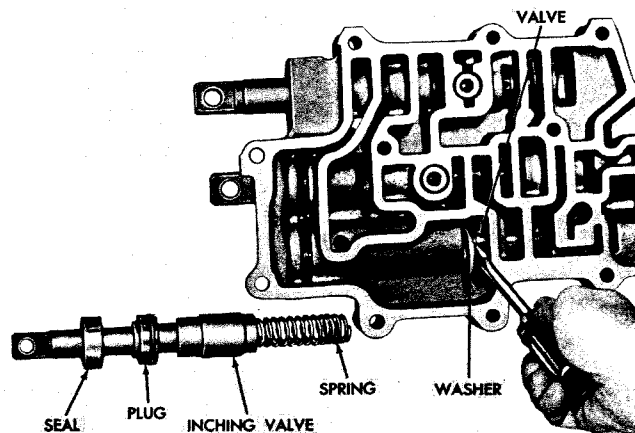

Fig. 6-5. Removing (or installing) inching valve washer—later model
(3) Using a small screwdriver, push the inching regulator valve forward in the valve body and remove washer 37 retaining it (fig. 6-5).
(11) Push the inching regulator valve forward against the spring and install the washer which retains it (fig. 6-5).
(12) Install seal ring 44 (B, foldout 15) onto plug 43. Install the plug, flat side first, onto the stem of the inching control valve.
(13) Install spring 41 into the recessed end of the valve.
(14) Install the inching control valve, spring and plug into the valve body. Push plug 43 into its bore in the valve body (fig. 6-5) and install valve stop 38 (B, foldout 15).
(15) Install oil seal 45, spring-loaded side inward and press it flush to 0.030 inch (0.762 mm) below the end-surface of the valve body.